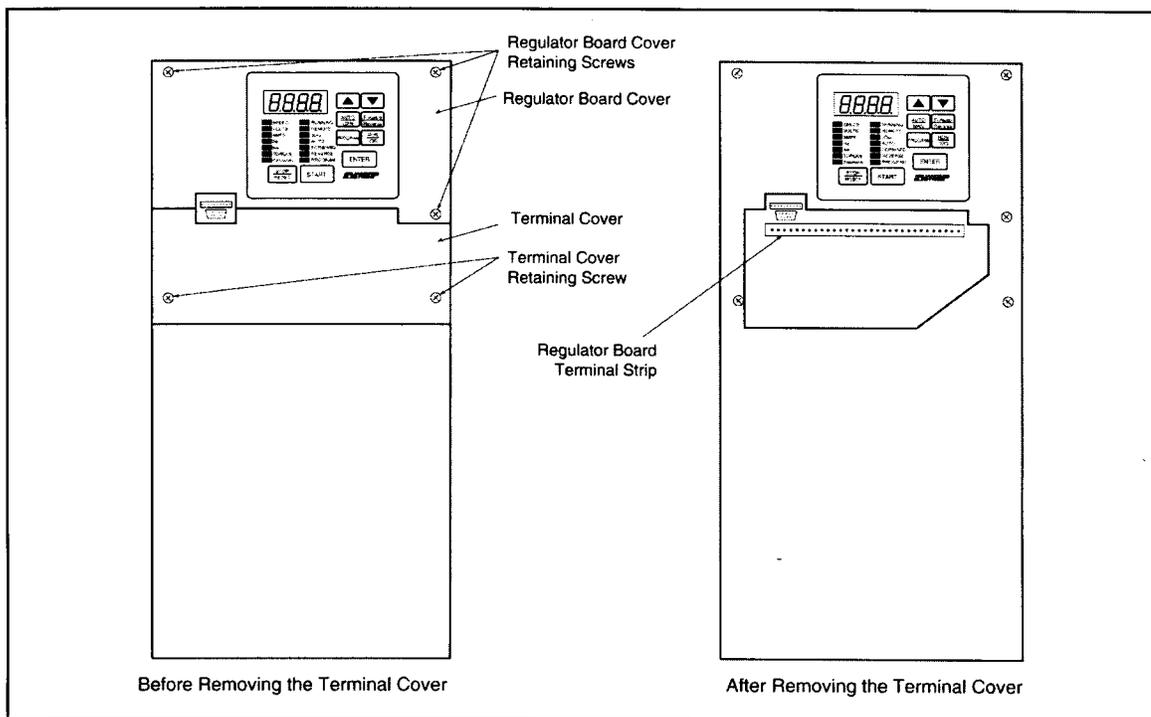

Figure 2.9 – Location of Terminal Cover and Regulator Board Cover in 30 to 100 HP @ 230VAC and 75 to 200 HP @ 460VAC
- **A Regulator board cover and terminal cover:** Remove the three M4 screws from the Regulator board cover. Remove the cover. See figure 2.9.
- Remove the terminal cover, which is below the keypad and fastened with two M4 screws. See figure 2.9.
Refer to figures 2.9 and 2.10.